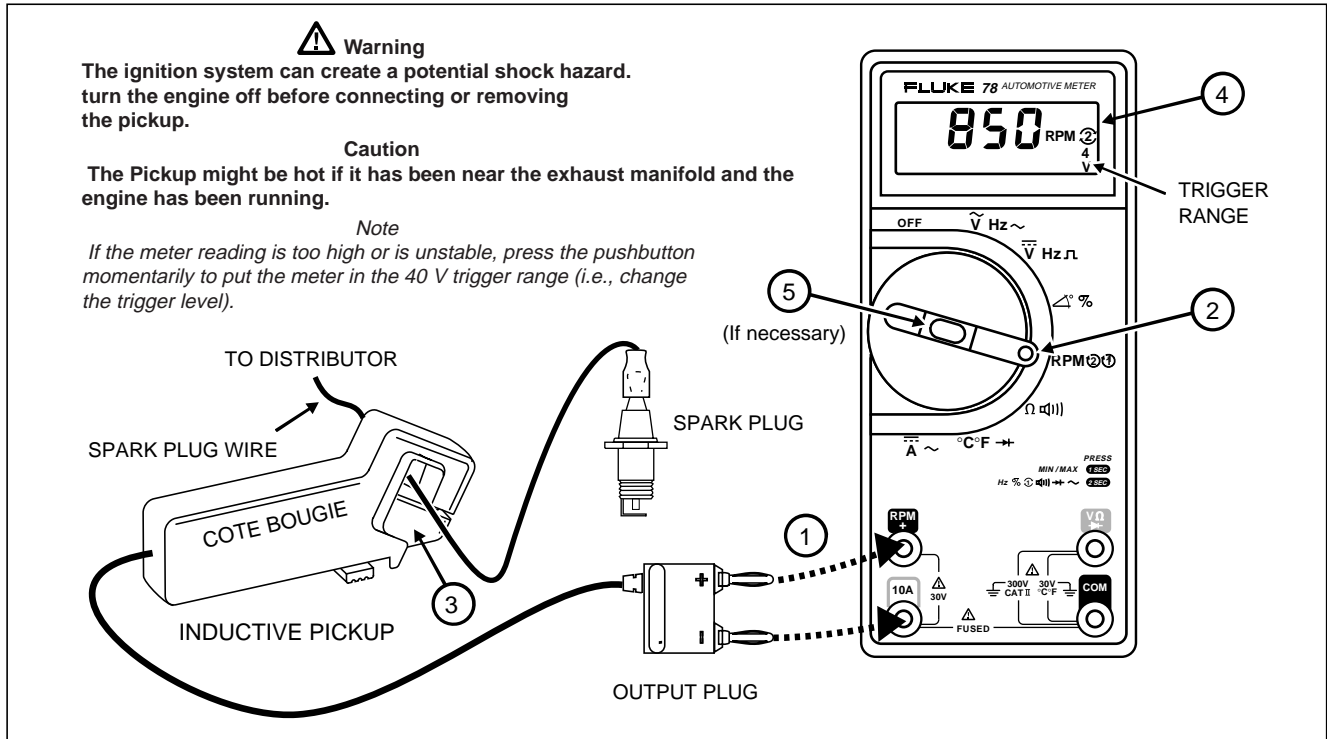

Figure 10. Measuring RPM with the (Optional) Inductive Pickup
1. Insert the pickup plug into the jacks shown in Figure 10. Make sure the + end of the plug is in the RPM jack.
- Use RPM(2) for engines that fire once every two revolutions.
- Use RPM(1) for engines that fire every revolution or for waste spark, distributorless ignition systems (DIS) -- ie., 1 RPM count/spark.